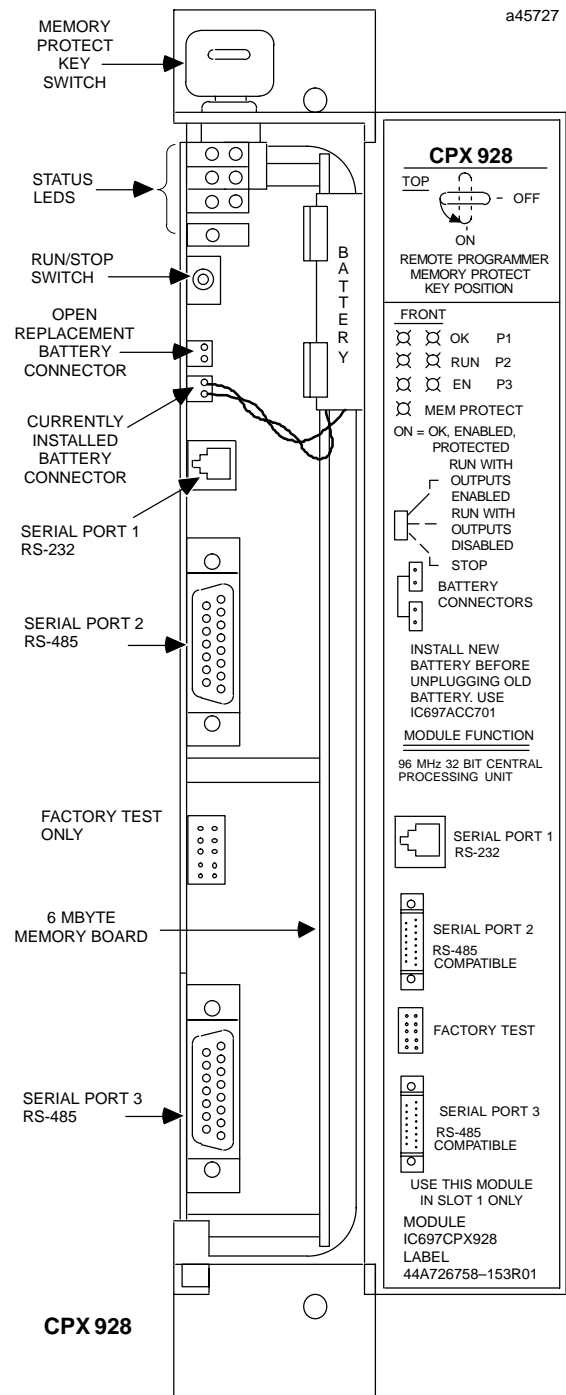

Figure 2. CPX 928 - Location of Major Features
- Connect the battery to either of the battery connectors on the module (see Figure 2).
A lithium battery (IC697ACC701) is installed as shown in Figure 2. This battery maintains program and data memory when power is removed and operates the calendar clock. Be sure to install the new battery before removing the old battery. Specific indication of a low battery state is detailed in the applicable *Programmable Controller Reference Manual*.